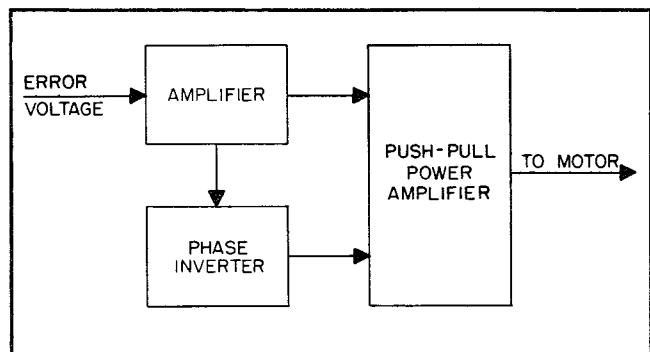

Figure 4-23. Antenna Control C-1246/ALA-6, Electron Tube Functional Block Diagram
b. Servo Control Amplifier (Figure 4-23).
4-123. SERVO CONTROL AMPLIFIER. (Figures 4-23 and 7-5).